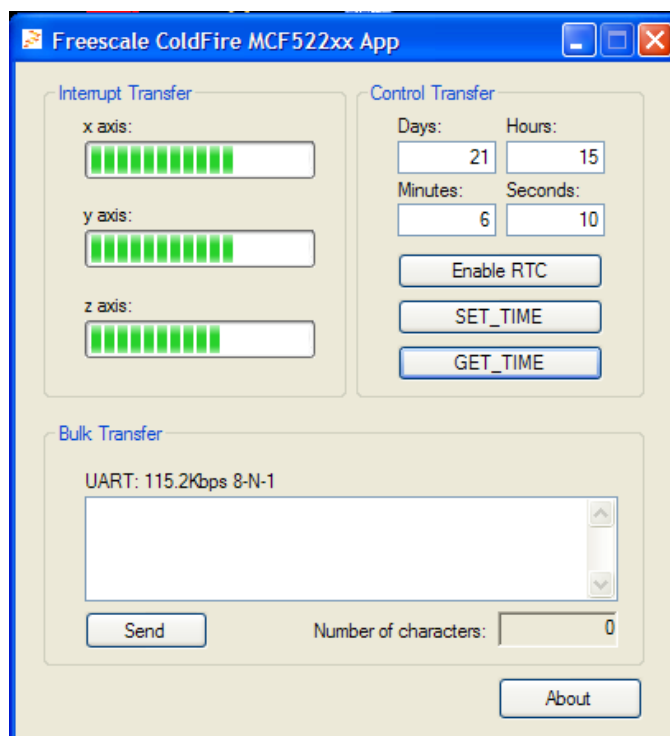

Figure 1. PC GUI
The graphical user interface (GUI) included with this application note is shown in Figure 1. The GUI and M52210DEMO (DEMO board) do the following:
- Send and receive the following data/information. See Figure 1: